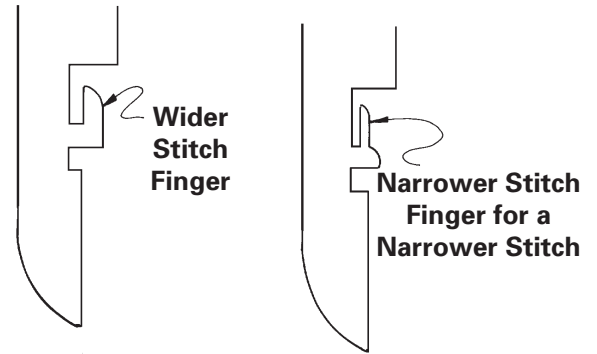

Fig. 24-9
- Use a narrower stitch finger. (Fig. 24-9)